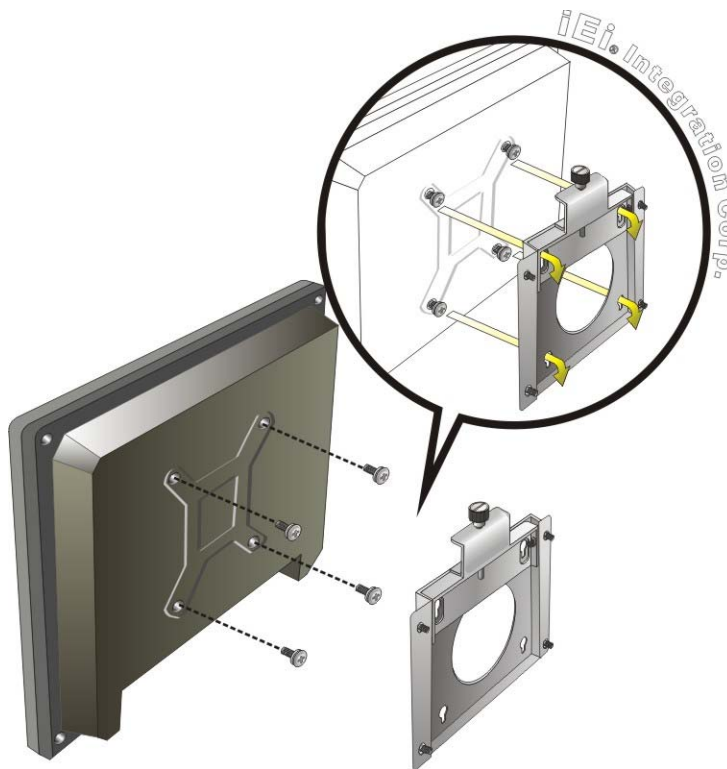

Figure 4-11: Chassis Support Screws
Step 6: Insert the four monitor mounting screws provided in the wall mount kit into the four screw holes on the rear panel of the flat bezel panel PC and tighten until the screw shank is secured against the rear panel (**Figure 4-11**).
Step 8: Carefully insert the screws through the holes and gently pull the monitor downwards until the monitor rests securely in the slotted holes (**Figure 4-11**). Ensure that all four of the mounting screws fit snugly into their respective slotted holes.